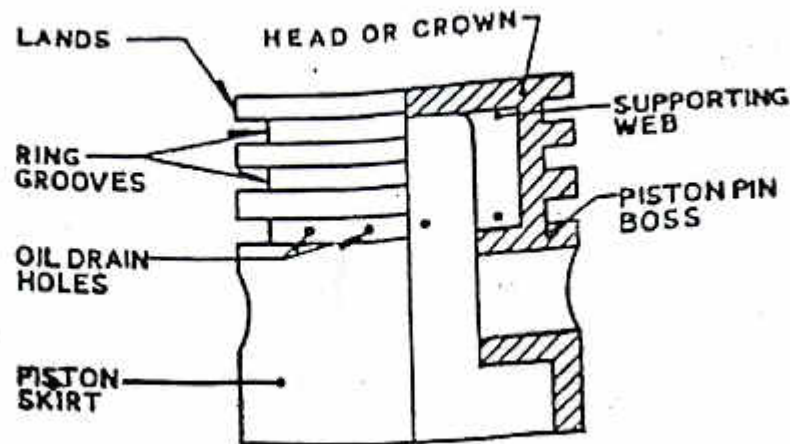

Fig. 2.22. L.C. Engine Piston.
- A typical piston is shown in Fig. 2.22. The top of the piston is called head or crown. Generally, low cost, low-performance engines have flat head as shown.